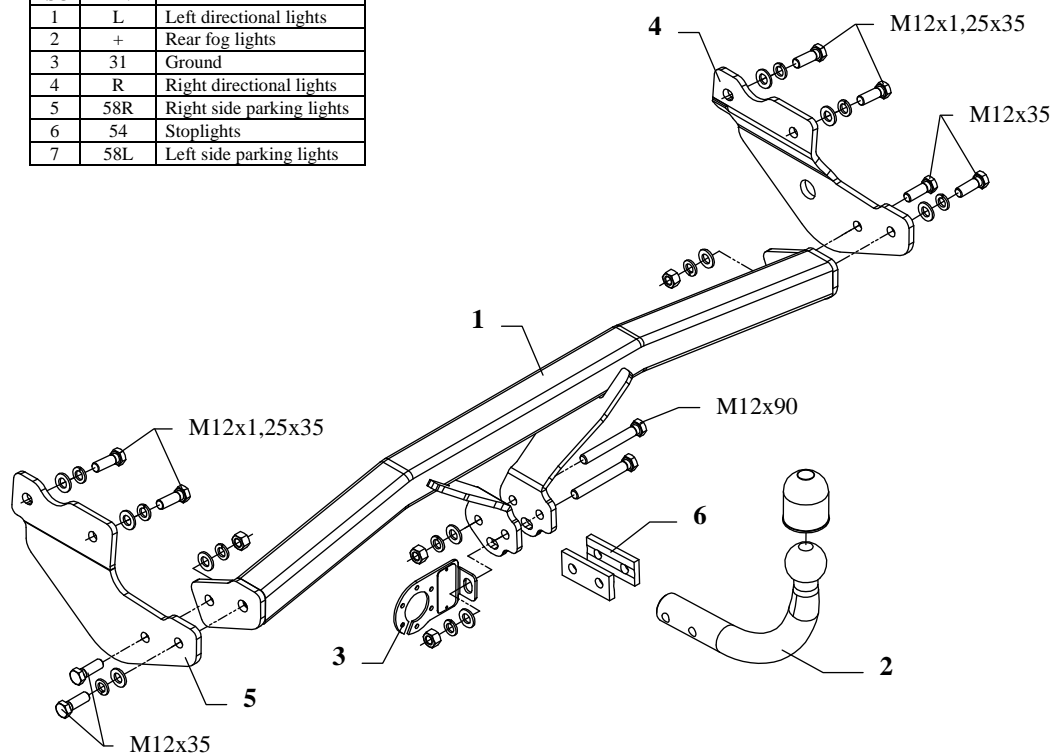

Fig. 1
4. Fix the brackets of the towbar (pos. 4 and 5) to chassis members using bolts M12x1,25x35mm (pos. 9) – loosely (see fig. 1).
5. Slip the main bar of the towbar (pos. 1) between installed brackets (pos. 4 and 5) and fix using bolts M12x35mm (pos. 8).
8. Fix tow-ball (pos. 2) and socket plate (pos. 3) using bolts M12x90mm (pos. 7).